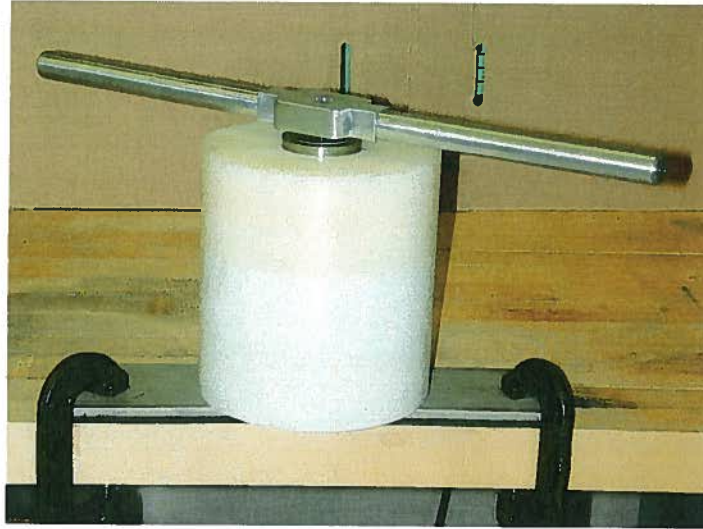

Figure 11: SFC wrench attached to the shielded SFC.
- r. While the SFC is in the base plate, steadily and smoothly tighten the nut with the SFC wrench until the stem shears off. See Figure 11.